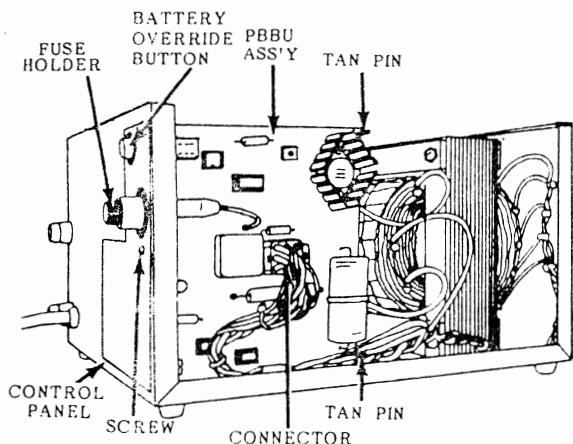

FIGURE 11
**02.22** Unwrap the PBBU. Remove and save the screw located in the mounting bracket (Figure 11).
**02.23** Slip the PBBU fuse holder and battery override button through their respective ports in the control panel (Figure 11). The PBBU mounting bracket should be flush against the rear of the control panel. The harness should flow around the PBBU PCB, with no wires beneath it.
**02.25** Use the previously removed screw and secure the mounting bracket to the control panel (Figure 11).
**02.28** Depress the battery override button (Figure 11). If it catches and stays in, press it again to cause it to release and protrude out of the control panel. The button must be out for the EPSA to operate normally.